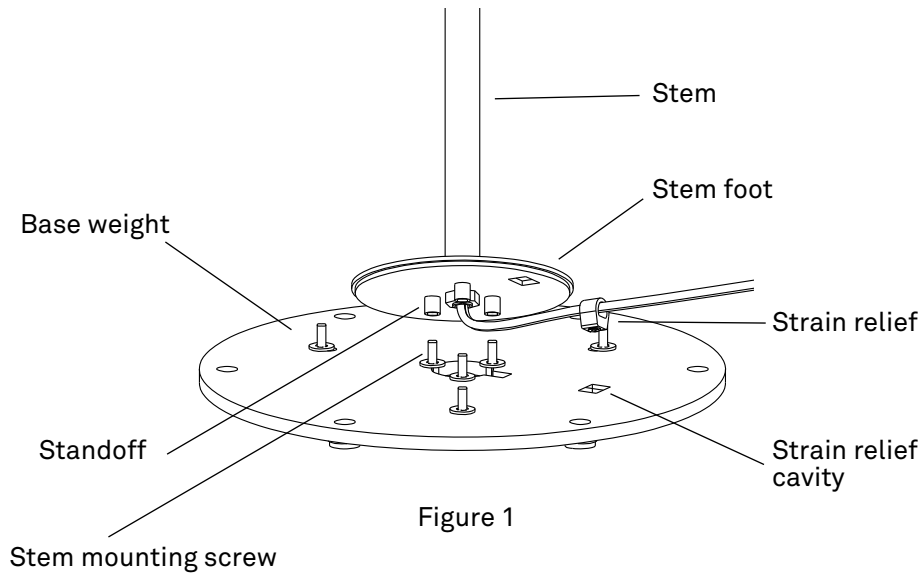

Figure 1
2. Thread the stem mounting screws into the standoffs on the stem foot. Make sure the power cord exits according to Figure 1. The long nose of the strain relief must face down, and align with the strain relief cavity in the base weight.